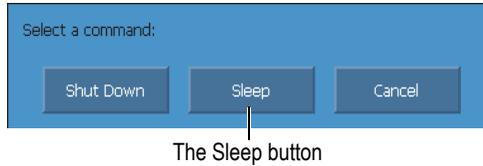

Figure 3-3 Sleep mode selection
2. Select **Shut Down** (see Figure 3-3 on page 39).
The “Select a command” message appears (see Figure 3-3 on page 39).